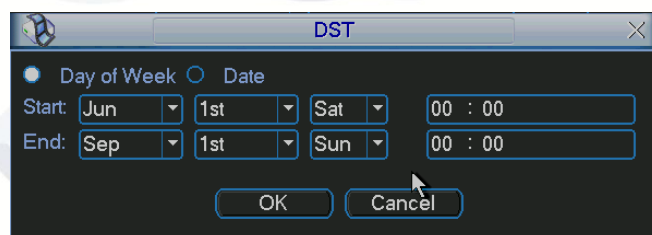
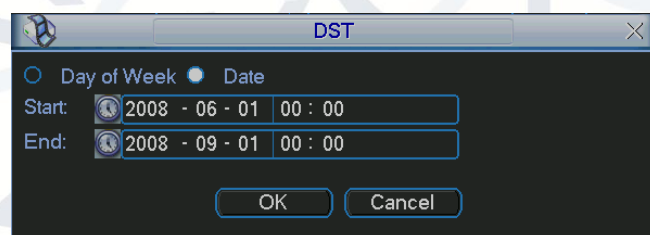

Figure 5-20
Figure 5-21
- **DST:** Here you can set DST time and date. Please enable DST function and then click the set button. You can see the interface shown in Figure 5-20. Here you can set the start and end time by setting the corresponding week setup. Click the date button to view the interface shown as in Figure 5-21. Here you can set start time and end time by setting corresponding date setup.